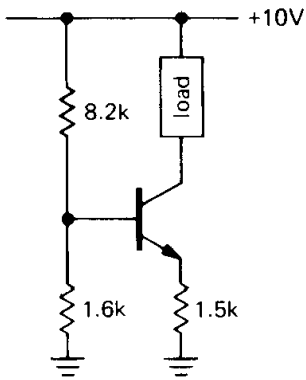

Figure 2.79
(2) Consider the current source in Figure 2.79. (a) What is I_{load} ? What is the output compliance? Assume V_{BE} is 0.6 volt. (b) If h_{FE} varies from 50 to 100 for collector voltages within the output compliance range, how much will the output current vary? (There are two effects here.) (c) If V_{BE} varies according to $\Delta V_{BE} = -0.0001 \Delta V_{CE}$ (Early effect), how much will the load current vary over the compliance range? (d) What is the temperature coefficient of output current assuming that h_{FE} does not vary with temperature? What is the temperature coefficient of output current assuming that h_{FE} increases from its nominal value of 100 by $0.4\%/^{\circ}\text{C}$?
(3) Design a common-emitter npn amplifier with voltage gain of 15, V_{CC} of +15 volts, and I_C of 0.5mA. Bias the collector at $0.5V_{CC}$, and put the low-frequency 3dB point at 100Hz.
(4) Bootstrap the circuit in the preceding problem in order to raise the input impedance. Choose the rolloff of the bootstrap appropriately.
(5) Design a dc-coupled differential amplifier with voltage gain of 50 (to a single-ended output) for input signals near ground, supply voltages of ± 15 volts, and quiescent currents of 0.1mA in each transistor. Use a current source in the emitter and an emitter follower output stage.
(6) In this problem you will ultimately design an amplifier whose gain is controlled by an externally applied voltage (in Chapter 3 you will see how to do the same thing with FETs). (a) Begin by designing a long-tailed pair differential amplifier with emitter current source and no emitter resistors (undegenerated). Use ± 15 volt supplies. Set I_C (each transistor) at 1mA, and use $R_C = 1.0\text{k}$. Calculate the voltage gain from a single-ended input (other input grounded) to a single-ended output. (b) Now modify the circuit so that an externally applied voltage controls the emitter current source. Give an approximate